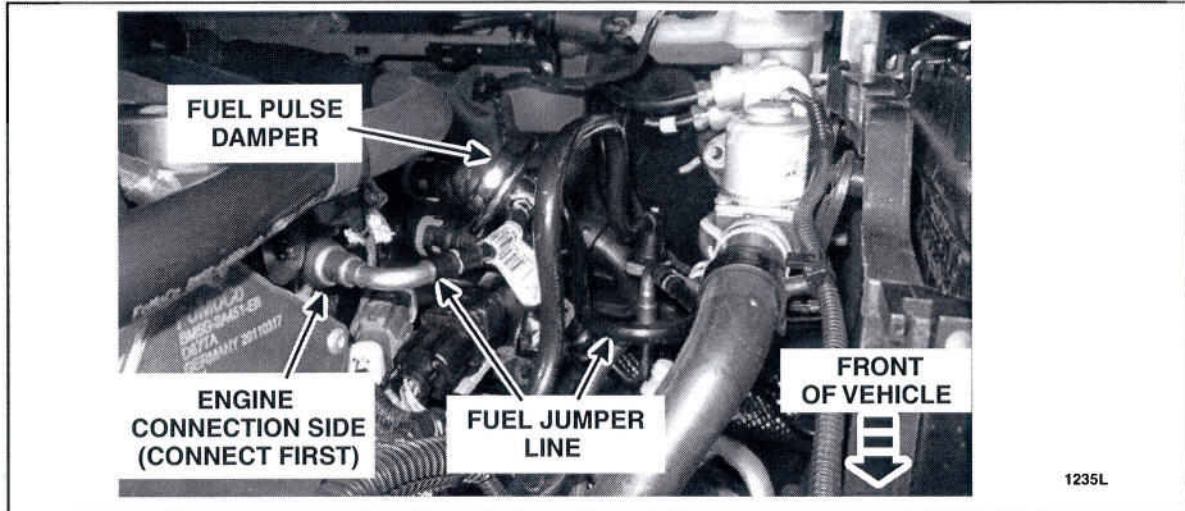

**FIGURE 8**
4. Verify that the PCV hose pin type retainer is pressed firmly in the side of the coil bracket. See Figure 8.